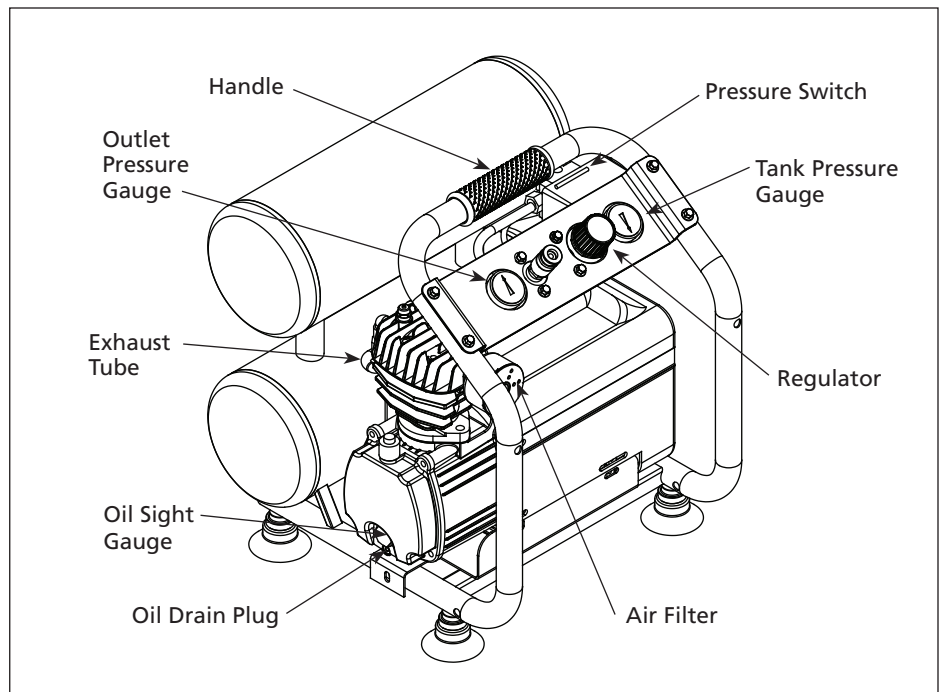

Figure 1 - Unit Identification
3. Remove drain plug (see Figure 1). Allow oil to collect in pan. Tilt unit to completely drain.